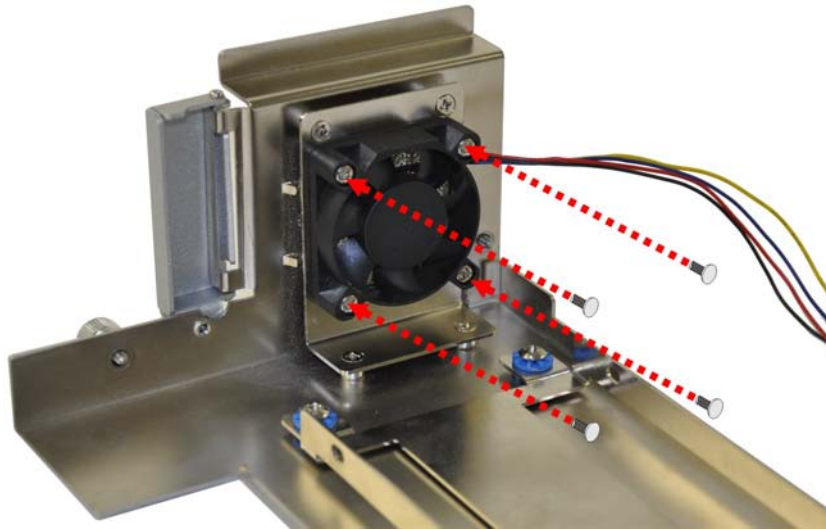

Figure 3-8: System Fan Installation
Step 3: Attach the system fan to the TANK-801 and secure it by four retention screws (**Figure 3-8**).